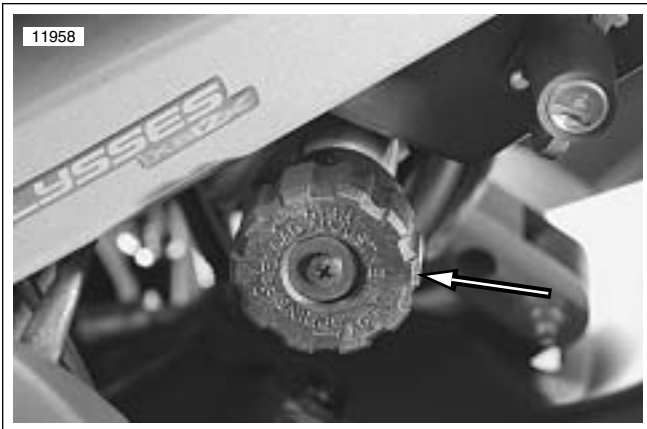

Figure 1-37. Rear Shock Preload Adjuster
- See Figure 1-37. Adjust the preload by turning the preload adjuster knob located on the left side of the vehicle according to Table 1-10.